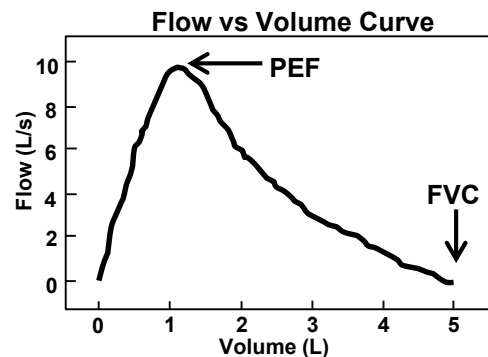

Fig. 7: Example of Flow vs Volume curve. The peak of the curve is PEF, while the right-most point is the FVC.
- Your plot should look something like Fig. 7.
- (2) Plots of **Flow** vs time and **Volume** vs time from the SYRINGE (Step 3e).
- (3) Values of **Vref** and **Calibration**.
- (4) Spirometer plots of YOU: **Flow** vs time, **Volume** vs time (like Fig. 8), and **Flow vs Volume** (like Fig. 7).
- (5) Your PEF and FVC.